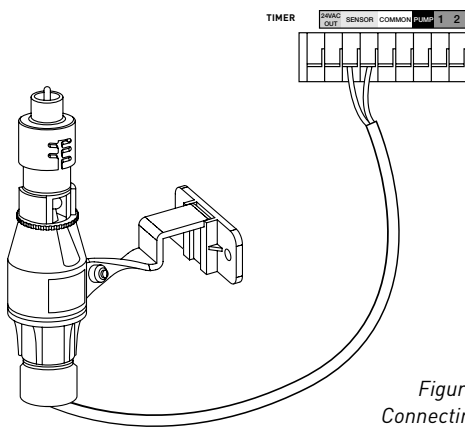

Figure 6:
- Place the sensor on/off switch to the "on" position to begin operation (see figure 6)